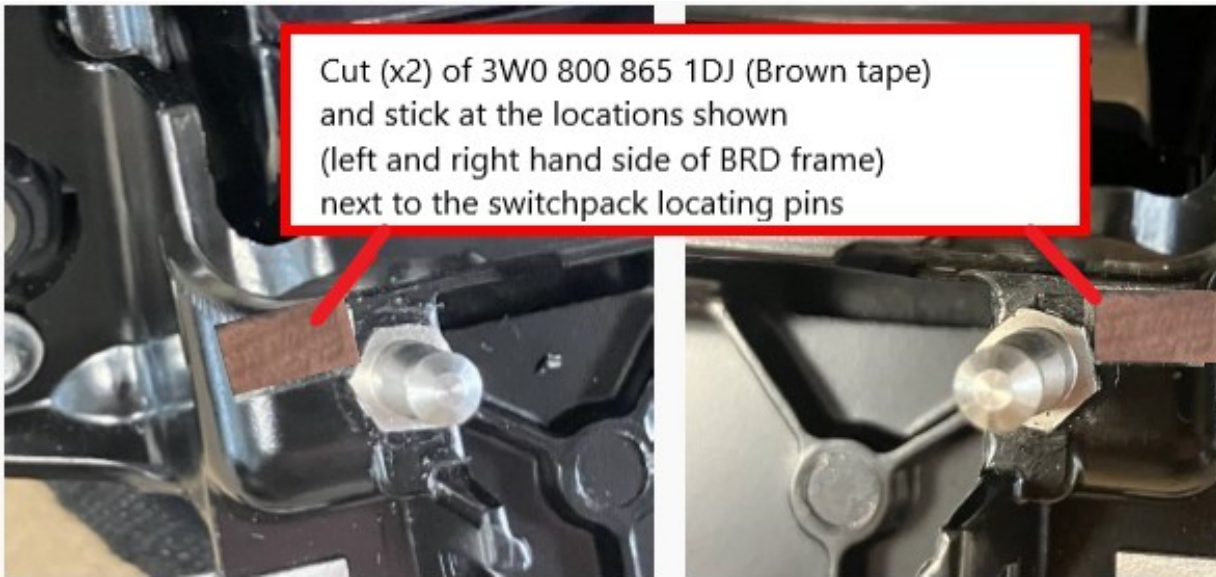

Figure 2
3) Referring to Figure 2 - Cut (x2) of 3W0 800 865 1DJ (Brown tape)